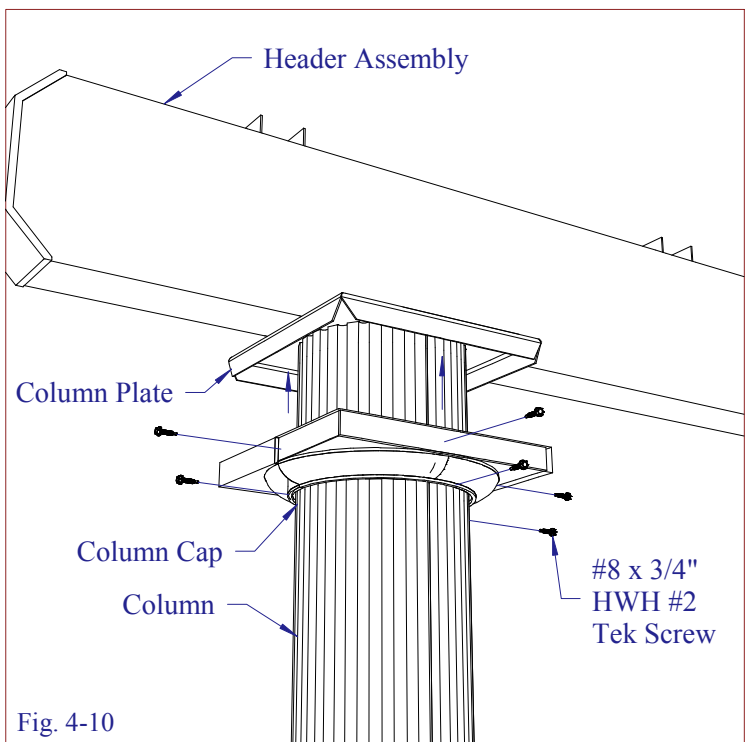

Fig. 4-10
- Push the column cap up until flush with the bottom of the header and attach to the column plate using (4) #8 x 3/4" HWH #2 Tek screws (see Fig. 4-10).
- Attach the column cap to the column using (6) #8 x 3/4" HWH #2 Tek screws as shown (see Fig. 4-10).